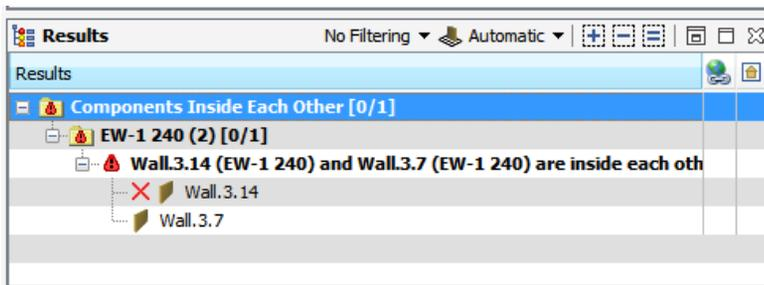

Figure 66 The issue, intersection checking
- 4) Select the "*Wall.3.14 (EW-1) and Wall.3.7 (EW-1) are inside each other*" from the **Results Table Tree**. The smaller wall (being inside) is already rejected automatically by the rule (see Figure 66).